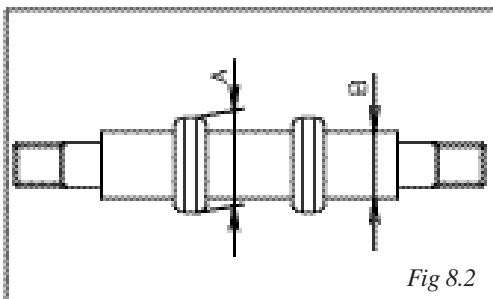

Fig 8.2
- Komplet axelpaket (fig. 8.2)